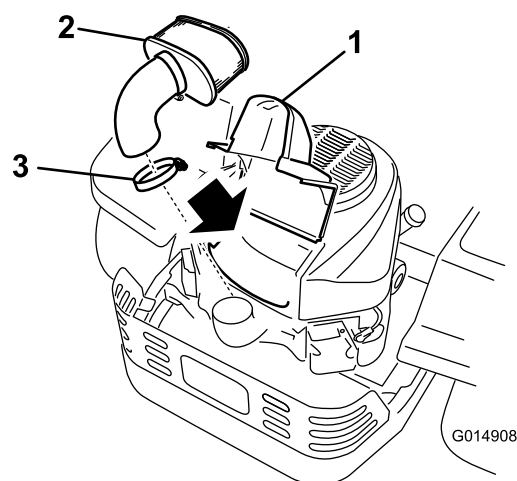

Figure 37
4. Lift the cover and remove the hose clamp securing the air-cleaner assembly to the engine (Figure 37).
5. Loosen the hose clamp and remove the paper element (Figure 37).